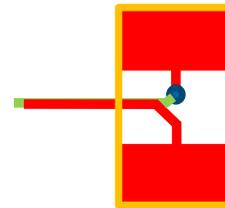

FIGURE 9. RECOMMENDED LAYOUT PATTERN FOR CURRENT SENSE TRACES REGULATOR
13. For the current sensing traces close to the power sense resistor ( $R_{SENx}$ ), the layout pattern shown in Figure 9 is recommended. Assuming the  $R_{SENx}$  is placed in the top layer (red), route one current sense connection from the middle of one  $R_{SENx}$  pad in the top layer under the resistor (red trace). For the other current sensing trace, from the middle of the other pad on  $R_{SENx}$  in top layer, after a short distance, via down to the second layer and route this trace right under the top layer current sense trace.